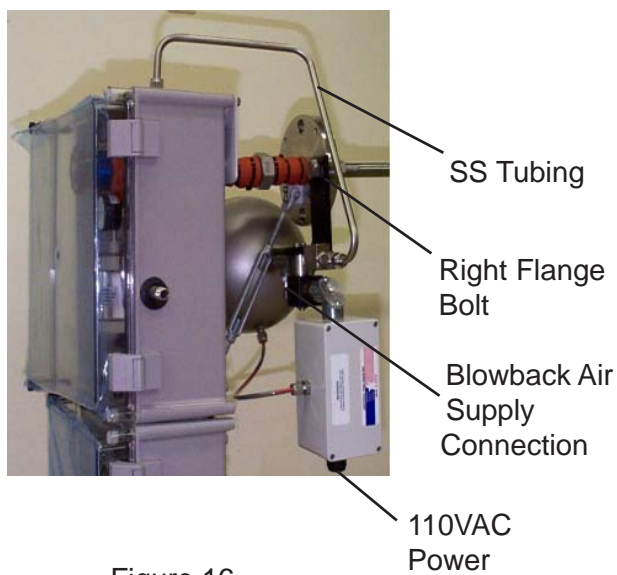

Figure 16
6. If system is being installed with automatic filter blow back option, install blow back system on right flange bolt (refer to Figure 16).